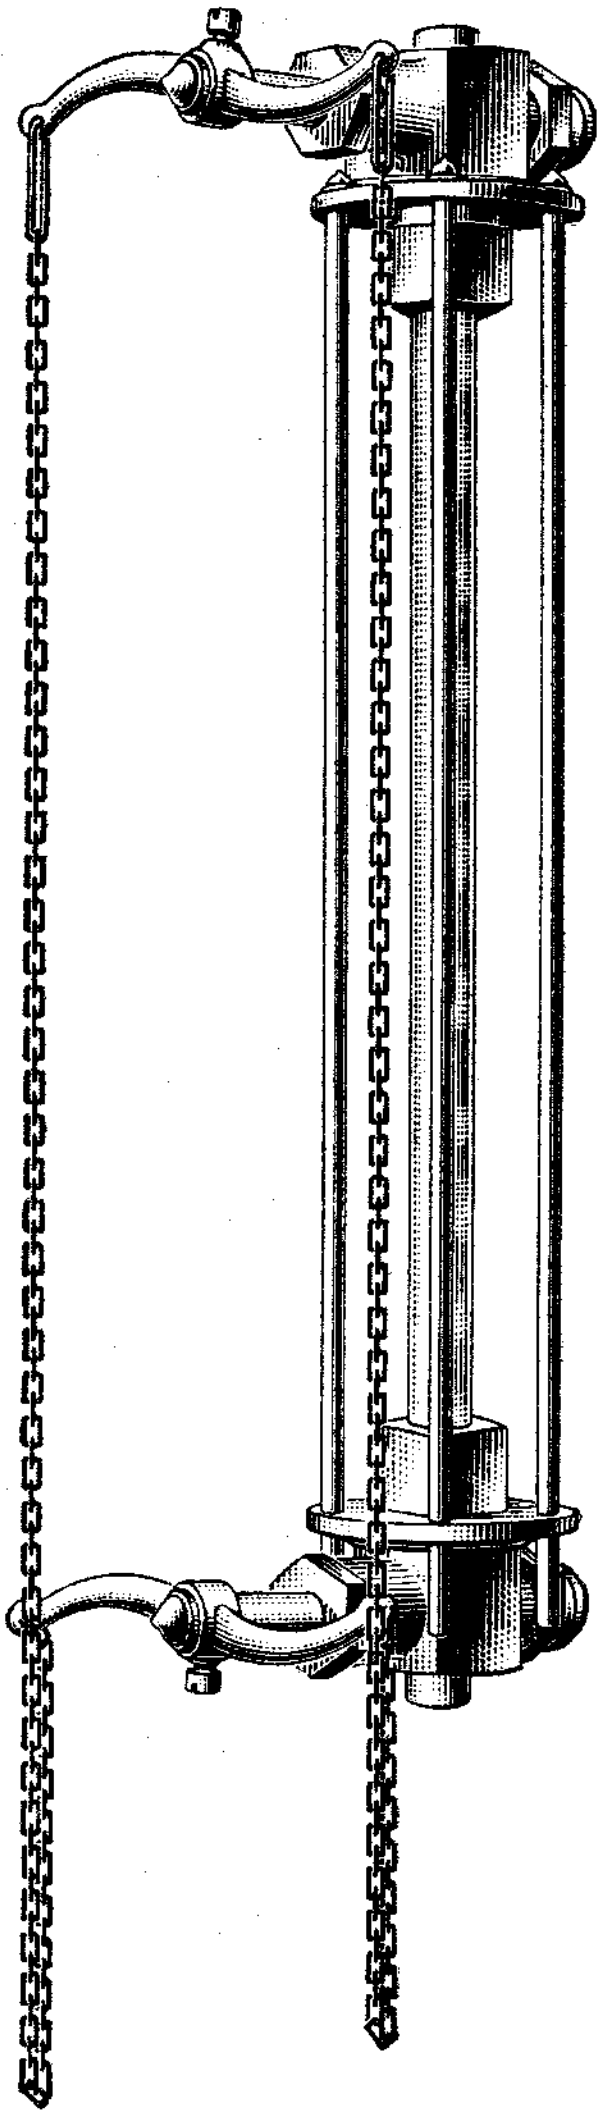

FIG. 9
17. To obviate the danger of scalding the hands, the P. B. H. quick-closing water gauge has been devised. In this, as shown in Fig. 9, a two-armed lever is placed on each valve stem. Chains are led from the ends of the levers to some safe point, and the valves are opened and closed by pulling the chains.